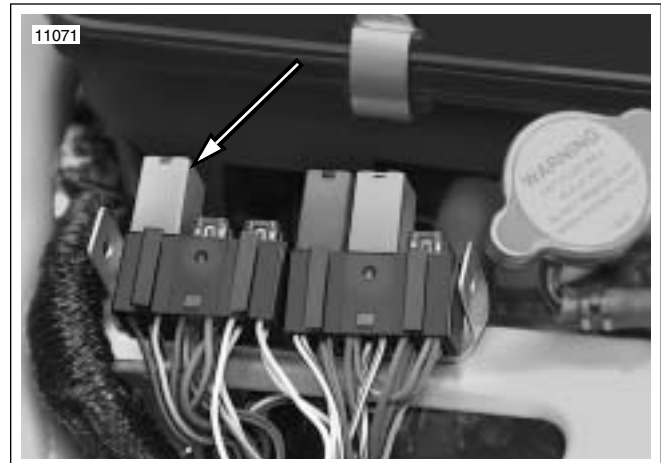

Figure 1-6. Starter Relay (typical)
1. See Figure 1-6. Locate the starter relay under the seat.
3. See Figure 1-6. Remove start relay.